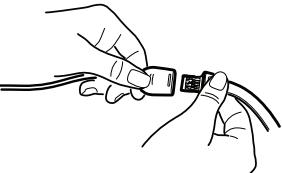

Fig. 5a
1. Refer to **Fig. 5a**. Orient the sensor's connector tab so that the side with the "shiny" contacts is facing up. Orient the patient cable with the color bar and finger grips facing up.